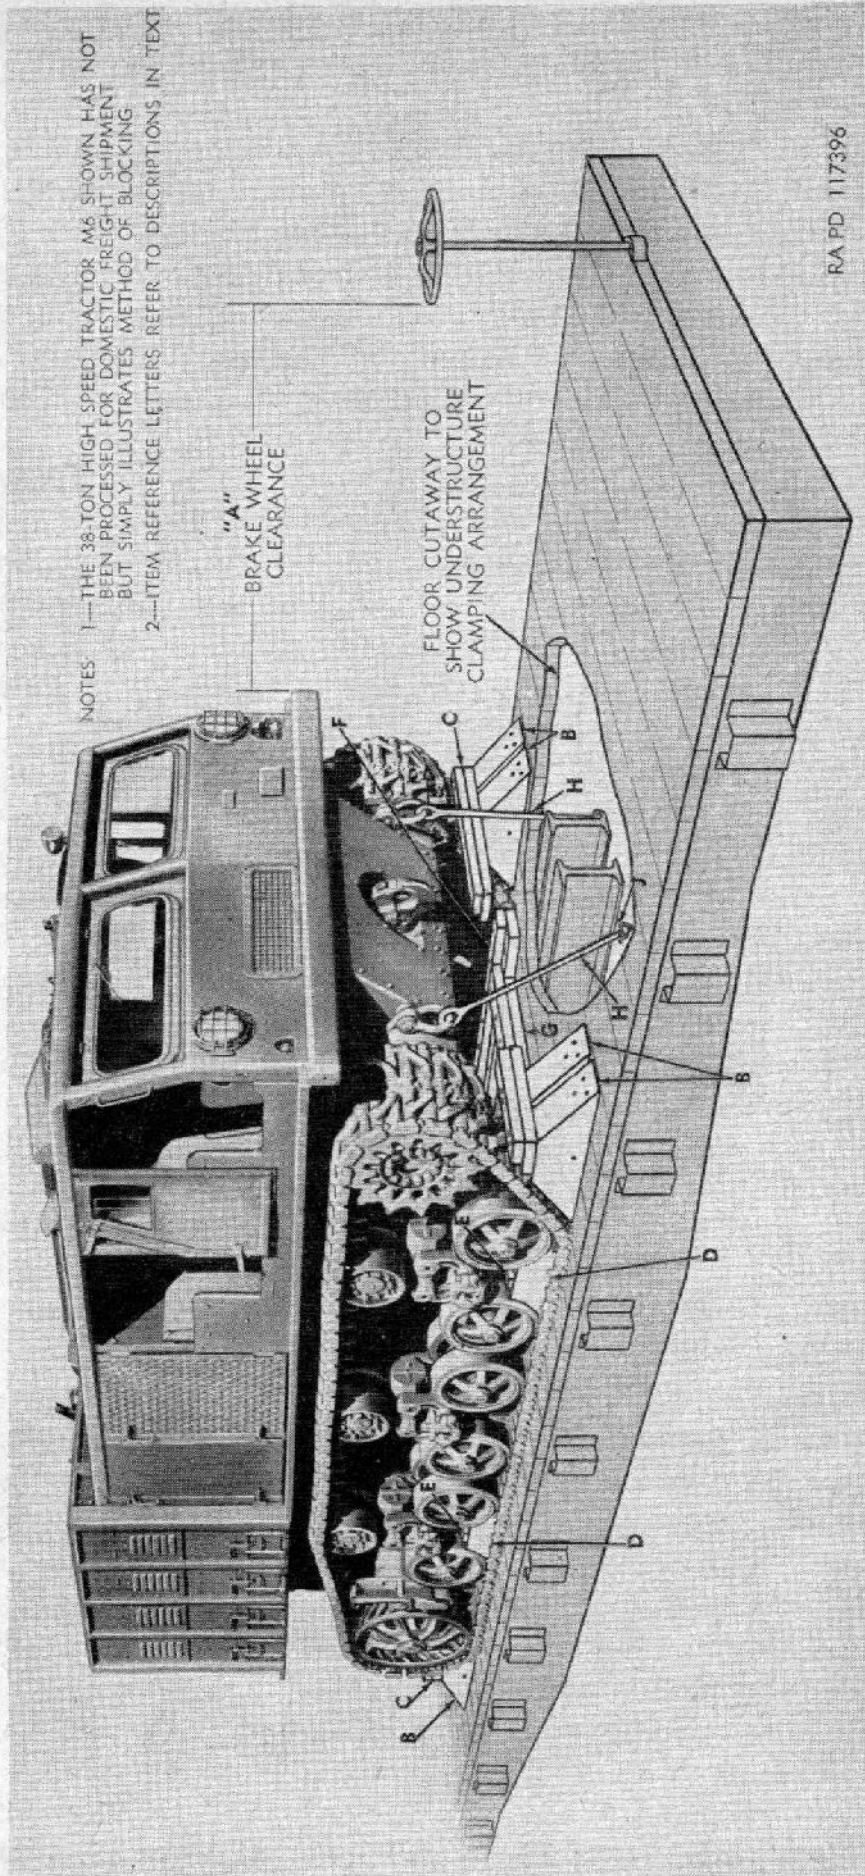

Figure 178. Method of blocking the 38-ton high-speed tractor M6 for rail shipment.
a. General. All blocking instructions specified herein are minimum and are in accordance with the Association of American Railroads "Rules Governing the Loading of Commodities on Open Top Cars." Additional blocking may be added as required at the discretion of the officer in charge. Double-headed nails may be used if available, except in the lower pieces of two-piece cleats. All item reference letters given below refer to the details and locations as shown in figure 178.
b. Brake Wheel Clearance "A." Load vehicles on cars with a minimum clearance of at least 4 inches below and 6 inches above, behind, and to each side of the brake wheel (fig. 178). Increase clearance as much as is consistent with proper location of load.
h. Hull Blocking (fig. 178).
(1) *Eye Bolt "H" (1-inch diameter, length to suit, four required, fig. 178, Detail 2).* Locate and drill holes through car floor where eye bolts "H" will penetrate to engage in clamping bar "J." Insert threaded end of eye bolts through holes and secure other ends to towing shackles.